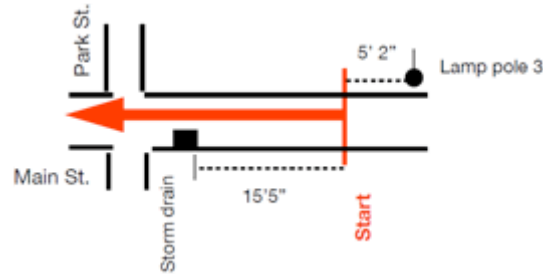

Figure I-1. Race course start defined by the distance to two permanent landmarks.
19. Whenever possible, the start, finish, and turnarounds should be defined by at least two permanent mark locations. In the example in Figure I-1 below, the